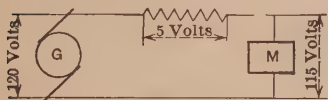

FIG. 75.
**Example 4.** A generator  $G$ , Fig. 75, is furnishing a current of 4 amperes to the line at a pressure of 120 volts. There is in the circuit a resistance  $R$ , which requires 5 volts to force the current through it, and a motor  $M$ , which requires 115 volts. How much power does the resistance  $R$  consume, and how much does the motor  $M$  consume?